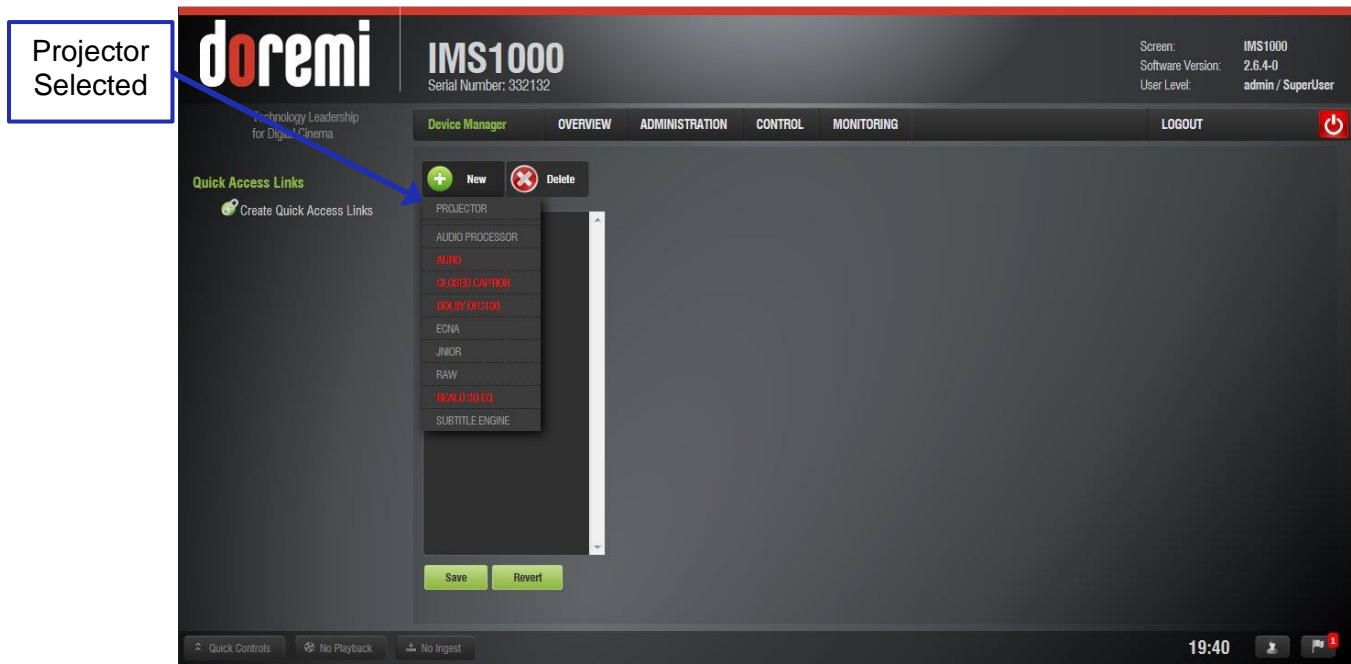

Figure 84: Add Projector Drop-Down
- Select Projector from the New Device drop-down menu (Figure 84).